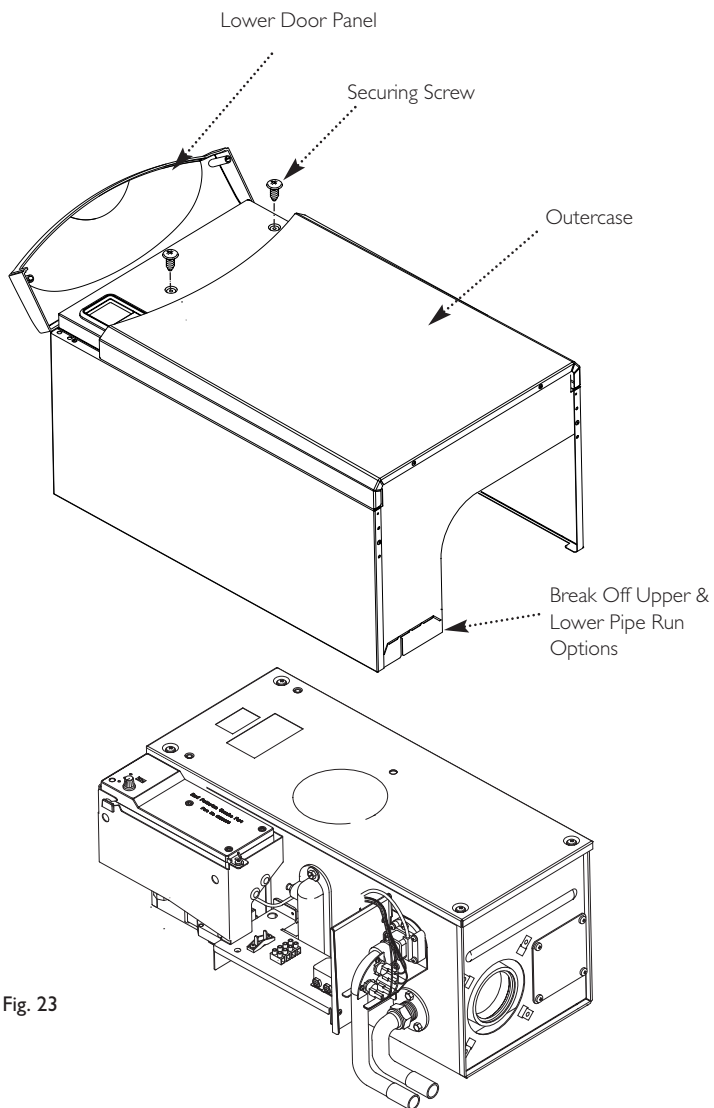

Fig. 23
3. Hinge down the lower door panel and unscrew the securing screws. Lift the outercase upwards and remove (Fig. 23).